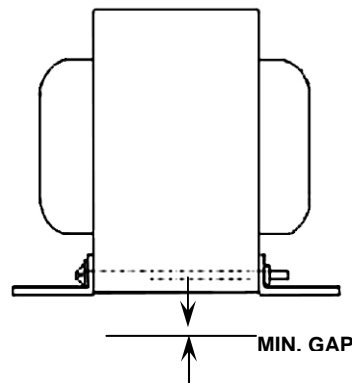

Fig.2
**NOTE:** Ballast should be mounted with short side of bracket flush to the ballast. See figure 2.